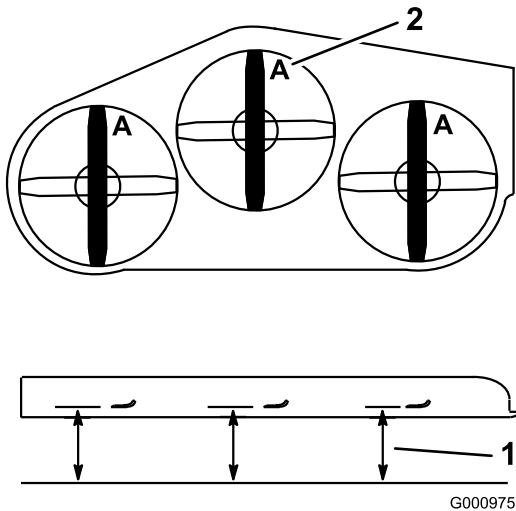

Figure 73
4. Measure from a level surface to the cutting edge, position **A**, of the blades (**Figure 73**).